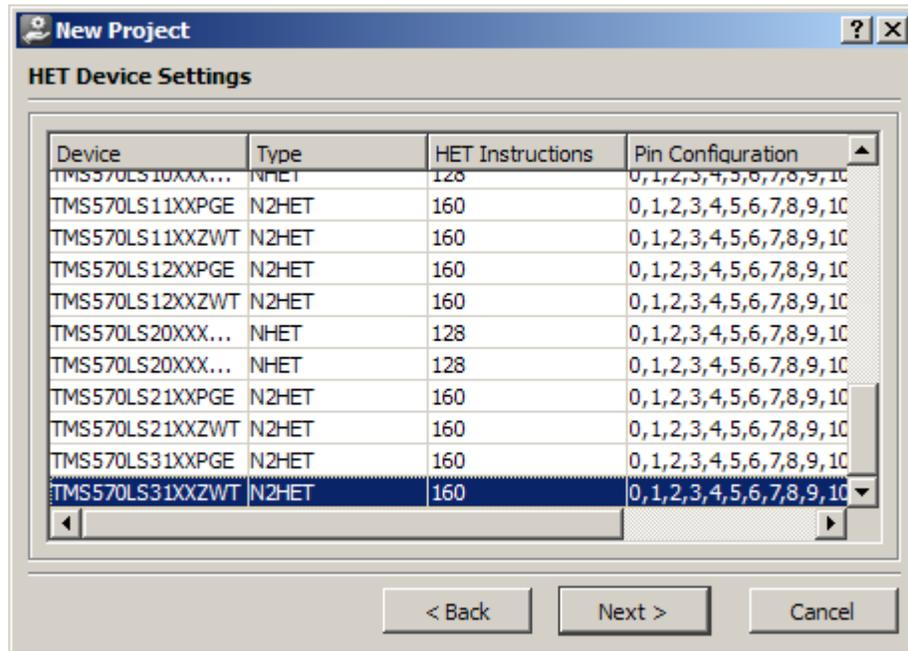

Figure 9. New Project - Device Selection
- Press the Next button to bring up a selection of HET devices. For this project, select the TMS570LS31XXZWT device (see Figure 9).